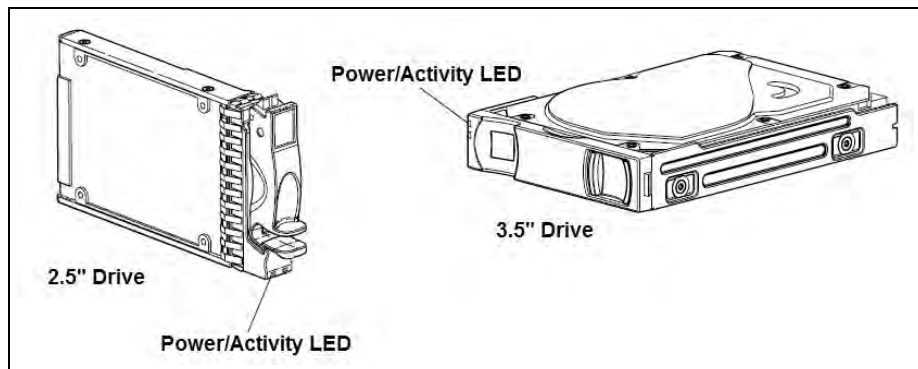

Figure C.53 - Drive Module LEDs
4. Check that the Power/Activity LED located on the drive is illuminated green (see **Figure C.53**).